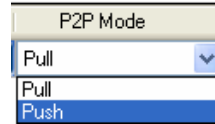

Figure 52: P2P Mode
10. Select Pull if you want the client device to request data from the server device. Select Push if you want the client device to send data to the server device. See Figure 52.